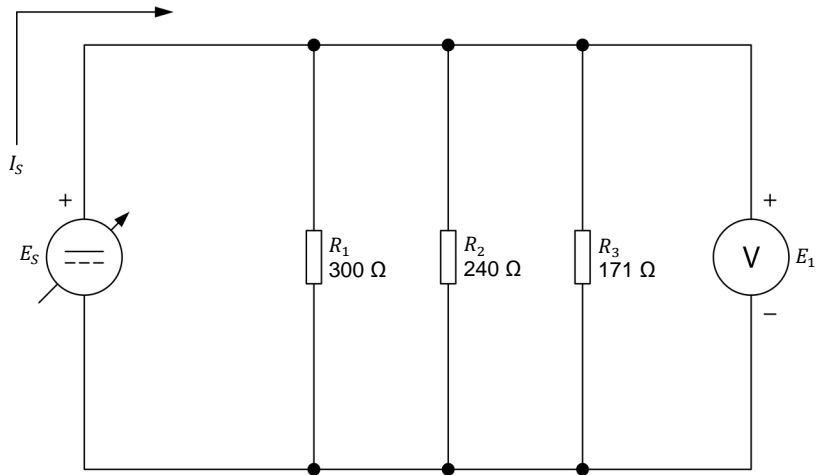

Figure 20. Determining the equivalent resistance of resistors connected in parallel.
10. Set up the parallel circuit shown in Figure 20. To obtain the resistor arrangement of Figure 20, make the necessary connection(s) and switch settings on the Resistive Load module.
11. Calculate the equivalent resistance ( $R_{Eq.}$ ) of the parallel resistors  $R_1$ ,  $R_2$ , and  $R_3$  in Figure 20.
3. Refer to Figure 20. If resistors  $R_1$ ,  $R_2$ , and  $R_3$  each have a value of  $100\ \Omega$ , what is the equivalent resistance  $R_{Eq}$ ?